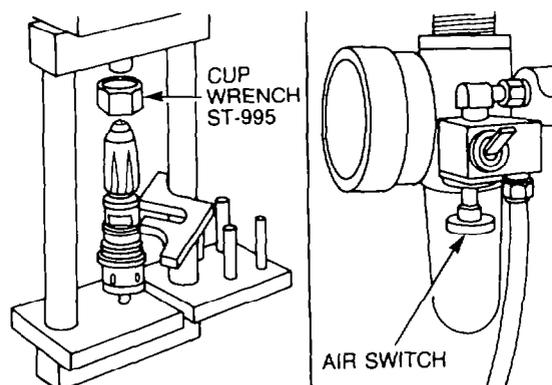

Figure 105 — Injector Body Wrench and Cup Wrench — Installation
- k. Install the injector body wrench 3375102 onto the flats of the injector adapter (see Fig. 105), then position the injector cup wrench ST-995 on the cup retainer and pull the air switch knob down.